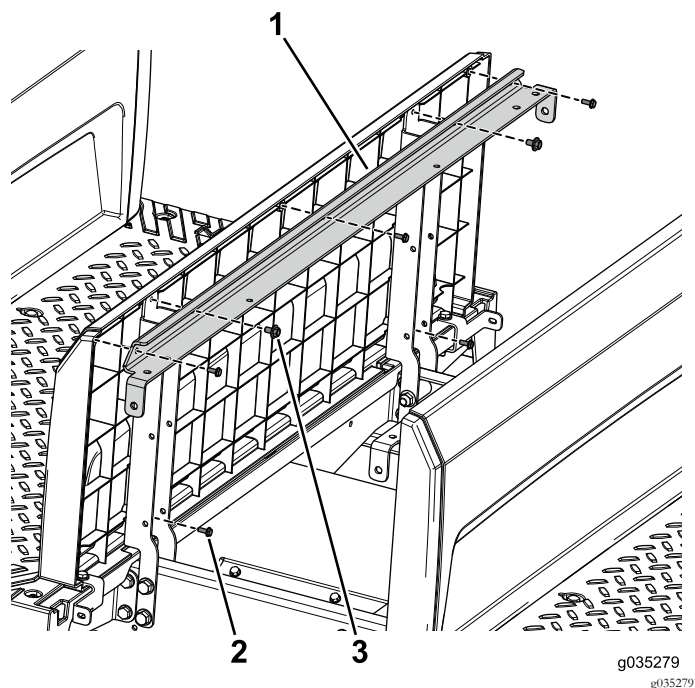

Figure 94
3. Use the 2 bolt with washer assemblies (1/4 x 1/2 inch) to secure the angled-support bracket and seat-base panel to the left and right seat supports (Figure 94).
4. Use the 5 screws (#10 x 1/2 inch) to secure the back panel to the angled-support bracket and the seat supports (Figure 94).